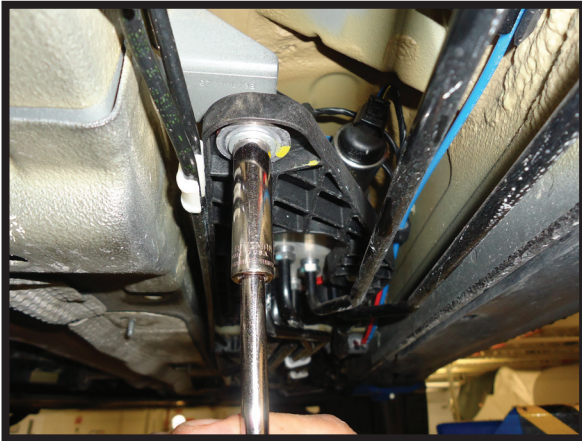

FIGURE 10-8
7. LOOSEN AND REMOVE THE HARDWARE HOLDING THE BRACKETS FOR THE FOUR (4) BLACK TUBES RUNNING DIRECTLY UNDERNEATH THE COMPRESSOR. (FIGURES 10-8, 10-9)